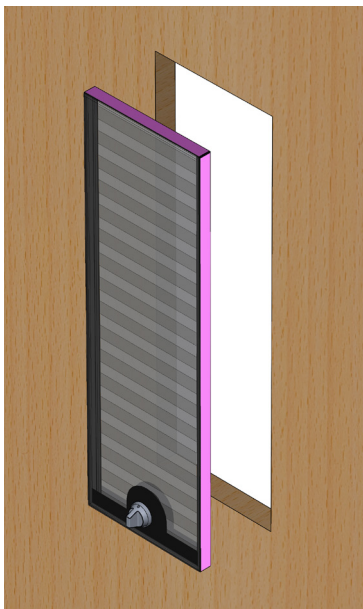

Fig. 6.
13. Place the panel into the door [Fig. 6.] on the customer specified orientation [which operator is to the corridor]. Support the panel from both sides of the door before surround is fitted.